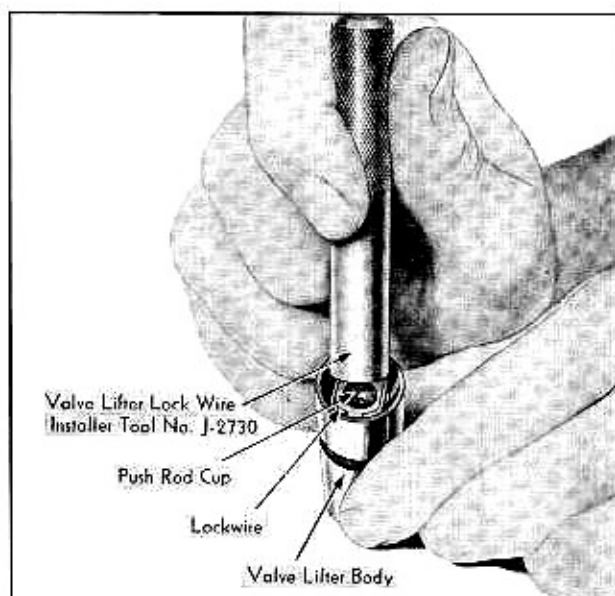

Fig. 10-15 Installing Valve Lifter Lock Wire
7. Press lock wire into groove with Valve Lifter Lock Wire Installer, Tool No. J-2730, Fig. 10-15.
(12) Installation of Valve Lifters